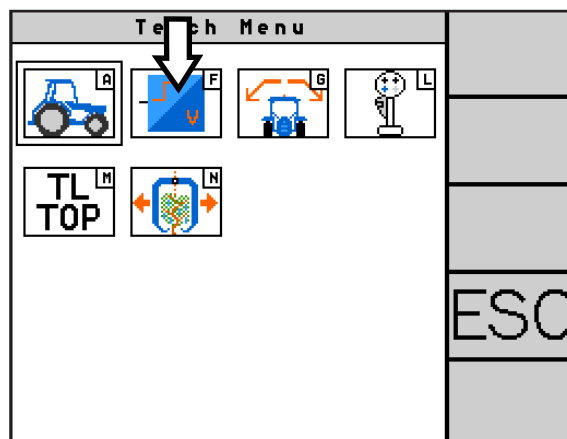

Fig. 52: Accessing the speed sensor teaching
Call up the “Teach Speed Sensor” (F) menu in the teach menu (see Fig. 52).